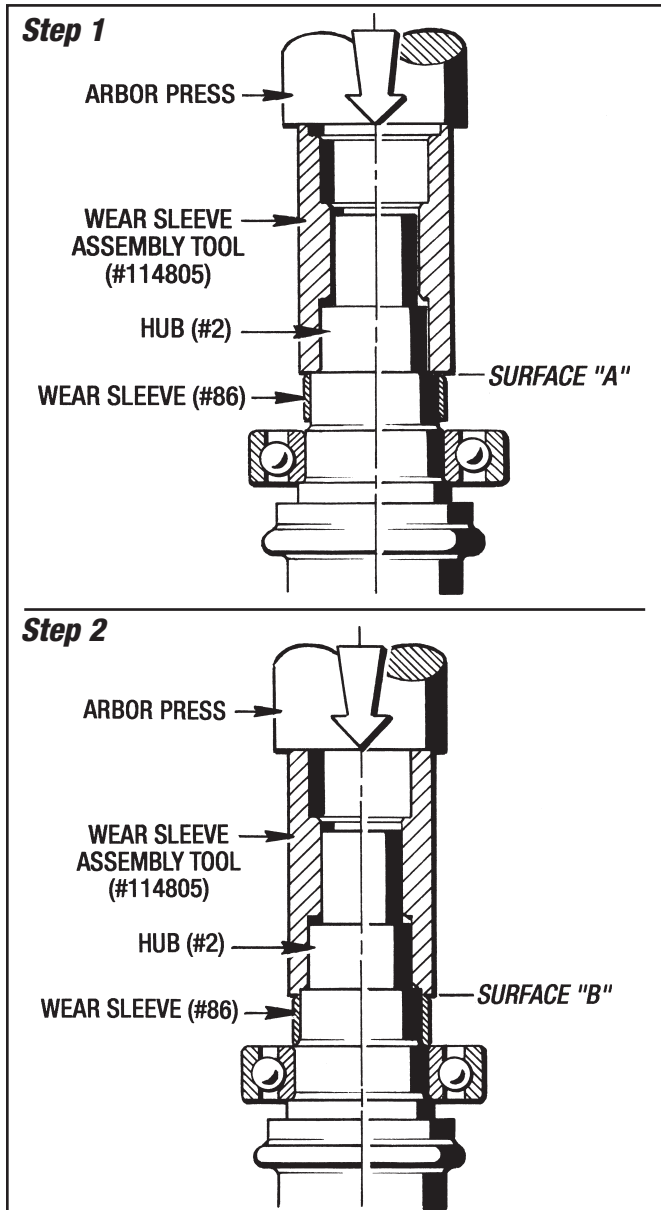

Figure 9.4 - Installing Wear Sleeve (#86)
3. Apply Red Loctite #262 to the hub diameter and with **Surface "A"** of the **Assembly Tool (#114805)** press the **Wear Sleeve (#86)** flush with the hub shoulder as shown in **Step 1** in Figure 9.4.
Turn the **Assembly Tool (#114805)** over and with **Surface "B"** finish seating the **Wear Sleeve (#86)** until it bottoms out. (See **Step 2** in Figure 9.4)